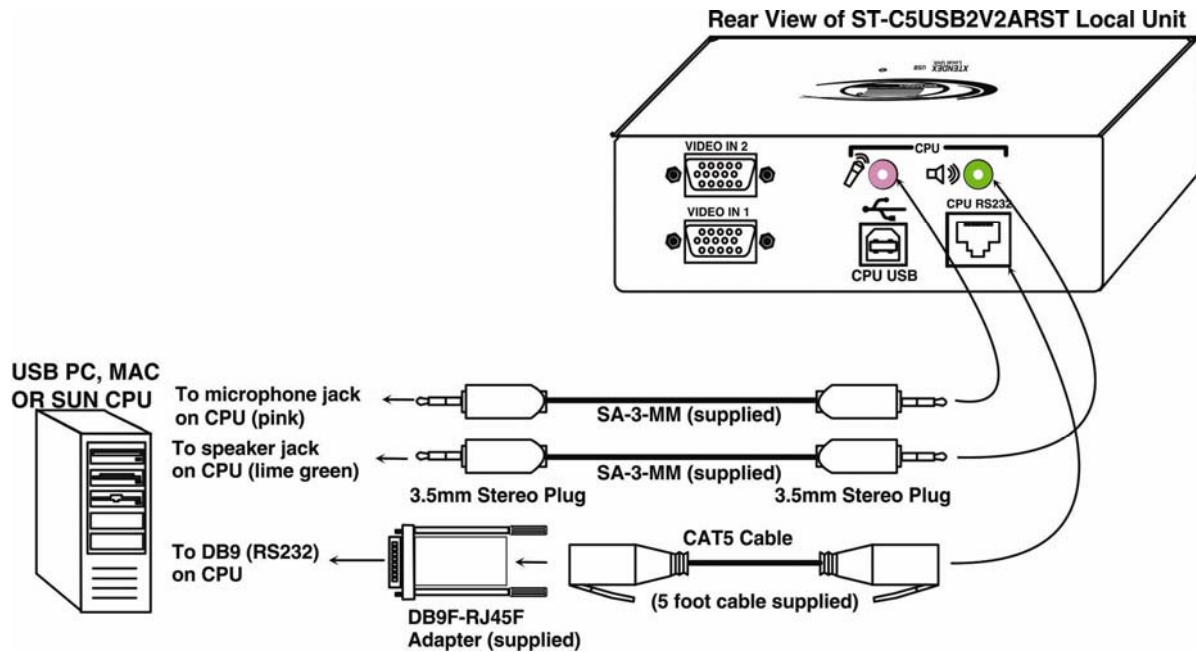

Figure 2- Connect audio and RS232 cables to the Local Unit
1. Connect an SA-3-MM stereo audio cable (supplied) between the pink “CPU” connector on the Local Unit and the “line in” or microphone jack (typically pink) on the CPU (see Figure 2).
2. Connect a second SA-3-MM stereo audio cable (supplied) between the green “CPU” connector on the Local Unit and “line out” or speaker jack (typically green) on the CPU (see Figure 2).